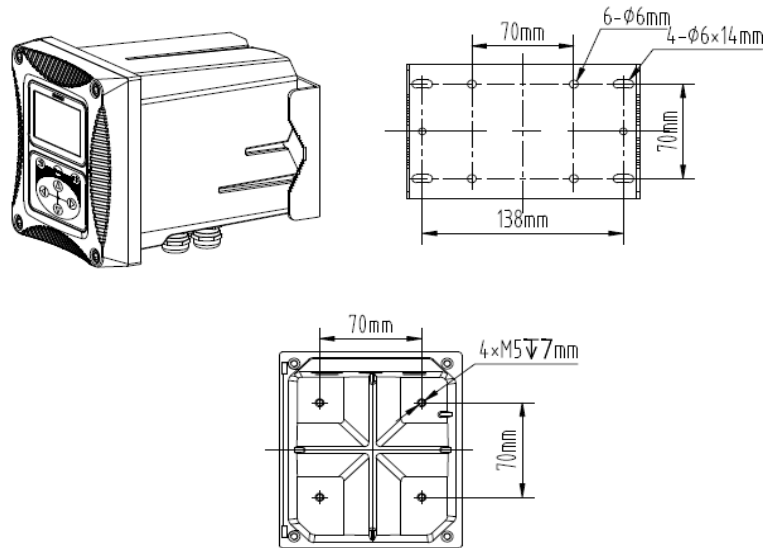

Figure 3 Installation Size
② Figure 3 shows the transmitter installation size.